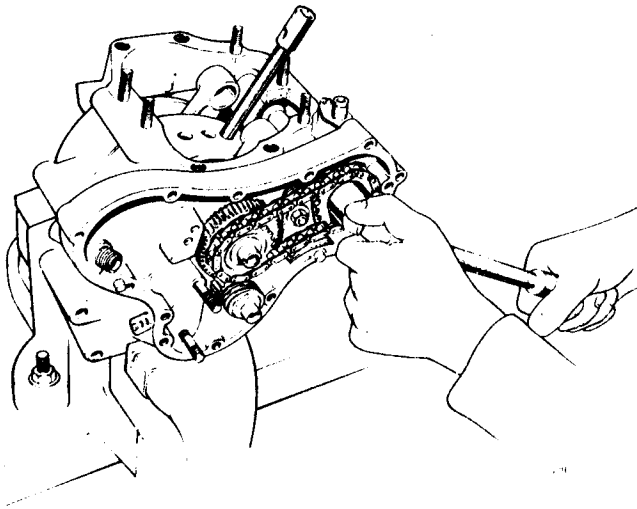

Fig. C22 Preventing flywheel turning by use of a bar lodged in a flywheel balance hole
- 8 Remove the oil pump driving worm from the crankshaft with its integral left hand threaded nut. To achieve this it is necessary to stop the crankshaft turning in the cases either by passing a round bar through the small ends and supporting on clean wooden blocks across the crankcase mouth or by placing a suitable bar into the deepest balance hole and allowing the bar to abut against the crankcase mouth in a similar manner to that shown in *Fig. C22*.